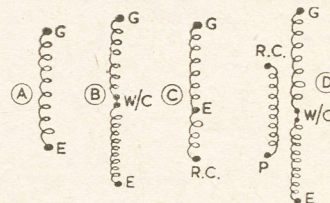

Fig. 3—Frame aerial circuits
If it is desired to use medium waves only, and the reaction condenser is connected between detector anode and frame, instead of between frame and L.T. negative, then only three leads will be necessary. This is shown in Fig. 1. Point 1 goes to detector grid condenser, point 2 (the tapping on the complete winding) to L.T. negative, and point 3 to reaction condenser. This is also shown at (C) in Fig. 3.
Different arrangements may be employed, and Fig. 3 should make these clear. Type D is that for Long and Medium Waves, with separate reaction, first described in detail and shown in Fig. 1.
In Fig. 3, 'G' denotes detector grid
The brackets are fully detailed and dimensioned in Fig. 2. At Fig. 3, we see an economical way of setting out the brackets to avoid waste. Naturally we have to cut a bit oversize to allow for trimming.